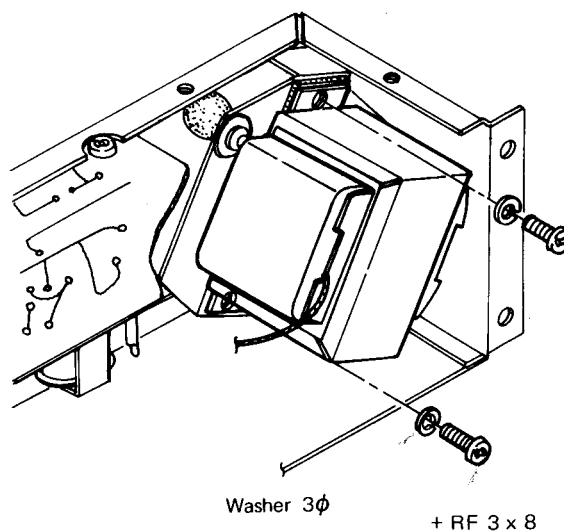

Fig. 2-8 Power transformer replacement
2. Remove the two screws (+RF 3×8) that hold the transformer to the transformer-mounting plate, as shown in Fig. 2-8.